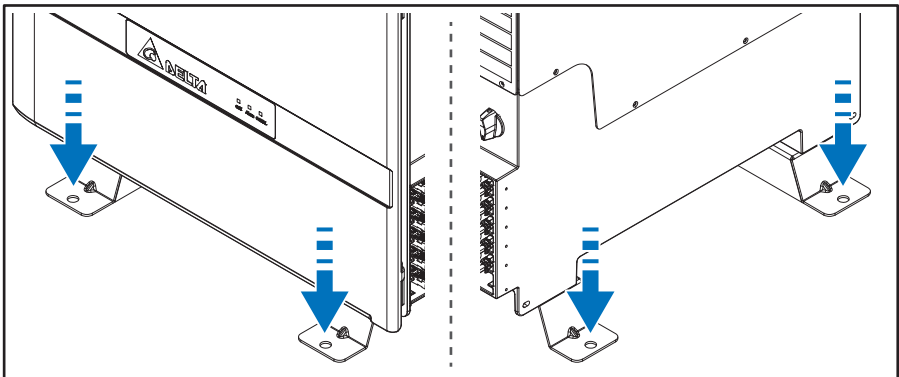

Figure 3-11: To secure inverter grounded brackets to ground-mounting base
2. The grounded base horizontally (perpendicular to the floor), and mark required mounting hole locations per **Figure 3-11**.
4. Secure the grounded brackets on the grounded base with 4 M12 screws per **Figure 3-11**.